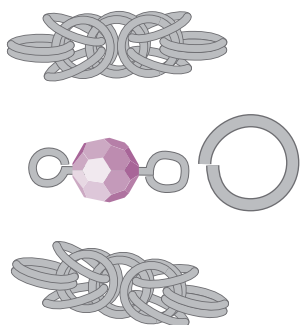

FIG. 1
3. Open 1 (or 2 if making a stand-alone unit) large jump ring(s) per unit. If connecting units to make a chain, open 1 additional large jump ring to finish the end of your chain (FIG. 1).